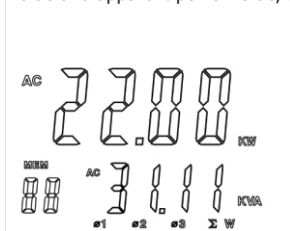

Figure 13
4. After recording the current power measurement value of the third phase, finally press  $\Sigma$  and hold for 1seconds to display the 3 phase sum of active power value and apparent power value, as in figure 13.